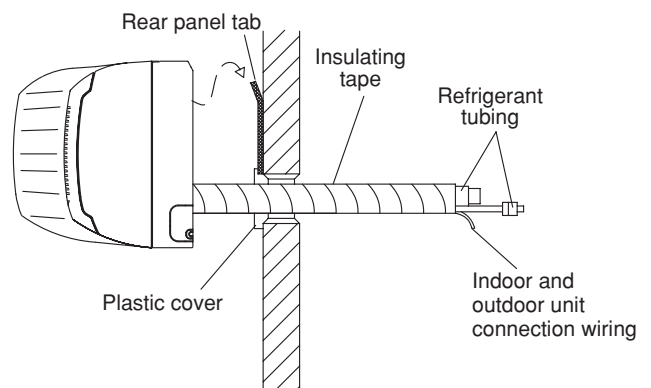

Fig. 3-60
- (1) Shape the refrigerant tubing so that it can easily go into the hole. (Fig. 3-60)
- (2) After performing a leak test, wrap both the refrigerant tubing and drain hose together with insulating tape.